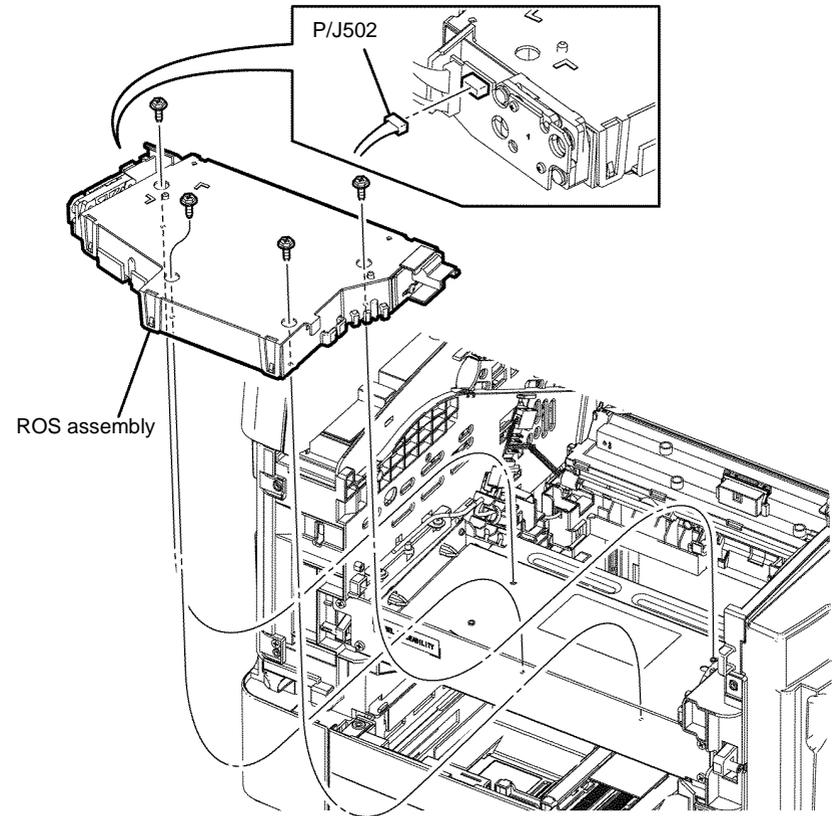

Figure 4 ROS assembly removal
6. Remove the four screws (silver, flanged, M3, 10mm) that fix the ROS assembly, disengage P/J502, then remove the ROS assembly from the printer, Figure 4.